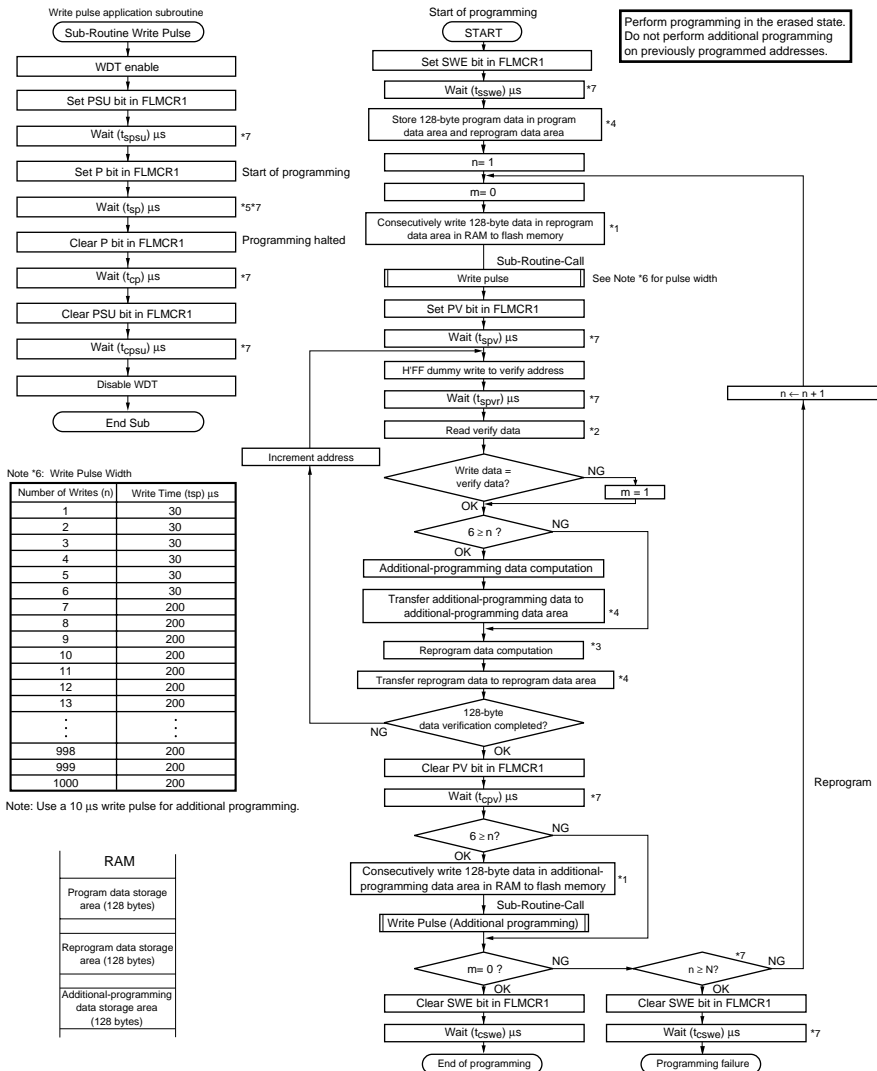

Figure 17.10 Program/Program-Verify Flowchart (128-Byte Programming)
When writing data or programs to flash memory, the program/program-verify flowchart shown in figure 17.10 should be followed. Performing programming operations according to this flowchart will enable data or programs to be written to flash memory without subjecting the device to voltage stress or sacrificing program data reliability. Programming should be carried out 128 bytes at a time.
After the elapse of the given programming time, clear the P bit in FLMCR1, then wait for at least (t_{cp}) μ s before clearing the PSU bit to exit program mode. After exiting program mode, the watchdog timer setting is also cleared. The operating mode is then switched to program-verify mode by setting the PV bit in FLMCR1. Before reading in program-verify mode, a dummy write of H'FF data should be made to the addresses to be read. The dummy write should be executed after the elapse of (t_{spv}) μ s or more. When the flash memory is read in this state (verify data is read in 16-bit units), the data at the latched address is read. Wait at least (t_{spvr}) μ s after the dummy write before performing this read operation. Next, the originally written data is compared with the verify data, and reprogram data is computed (see figure 17.10) and transferred to RAM. After verification of 128 bytes of data has been completed, exit program-verify mode, wait for at least (t_{cpv}) μ s, then clear the SWE bit in FLMCR1. If reprogramming is necessary, set program mode again, and repeat the program/program-verify sequence as before. The maximum number of repetitions of the program/program-verify sequence is indicated by the maximum programming count (N). Leave a wait time of at least (t_{cswc}) μ s after clearing SWE.
6. The program/program-verify flowchart for the H8/3026F-ZTAT version is shown in figure 17.10.